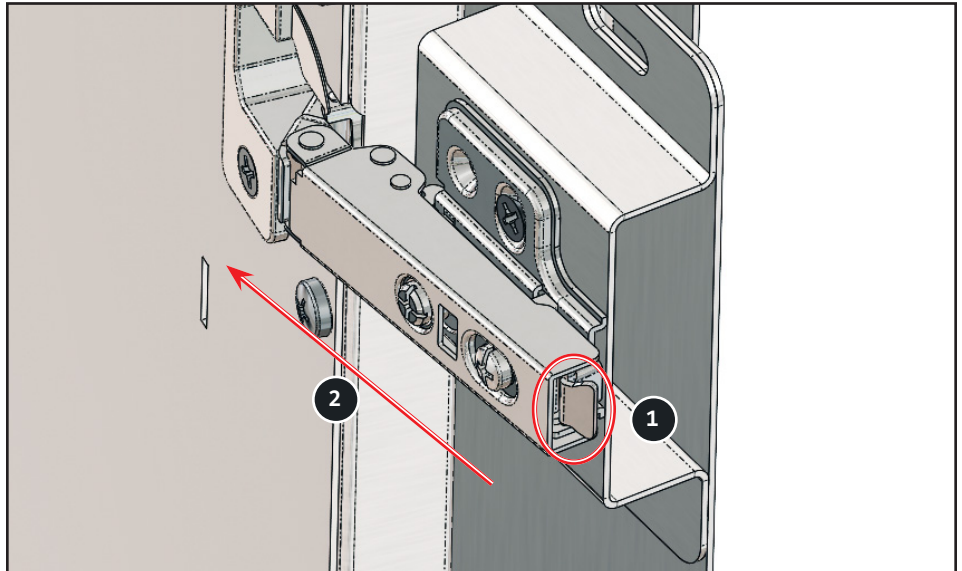

Fig. 1. Hinge release tab location.
2. While supporting the door, pull the hinge release tab at the back of the hinge. See fig. 1. Then, slide the hinge forward.